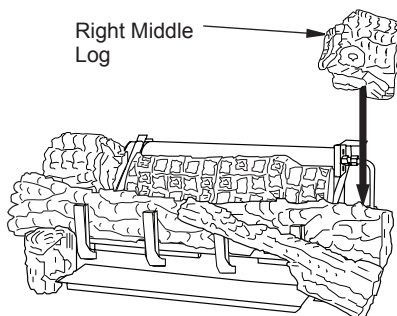

Figure 33 - Installing Right Middle Log
- The right middle log has a groove on the bottom to sit on the chassis and has to sit on the tab on the back of the right front. The right middle log should have a recess area that fits around the ramp log as shown in Figure 33.